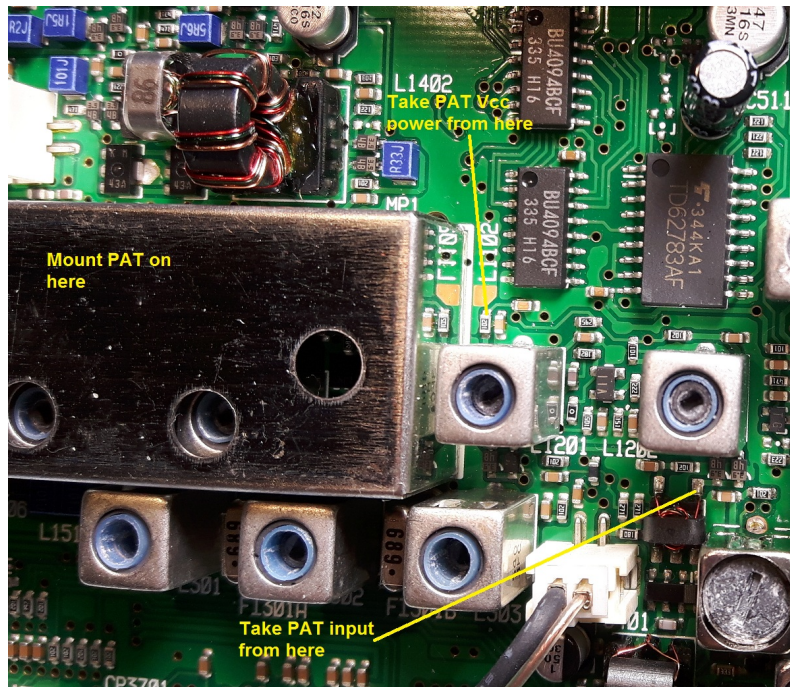

Fig 2 – Location of PAT inside IC718
- 9 Dimensions for preparing the ends of the cables are given in Table 1 and Fig 9. Do not pigtail the ends of the coax, but make them off as in Fig 2. See also details at the end of this note.